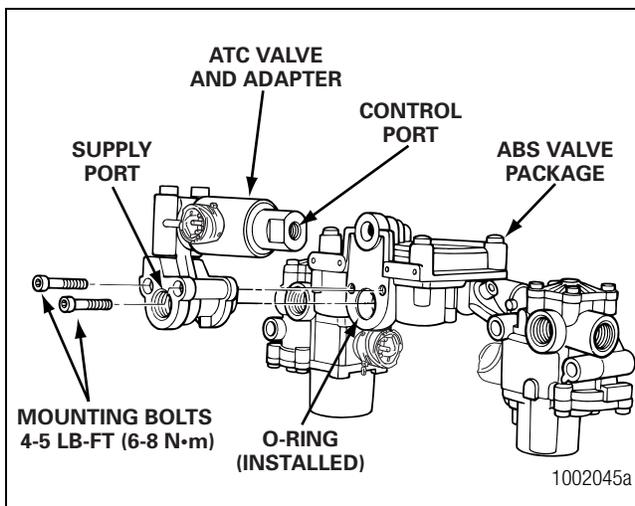

Figure 4.12
5. Use the two M6 Allen-head bolts to attach the adapter to the relay valve. Use a 5 mm Allen-head tool to tighten to 4-5 lb-ft (6-8 N·m). Figure 4.12.